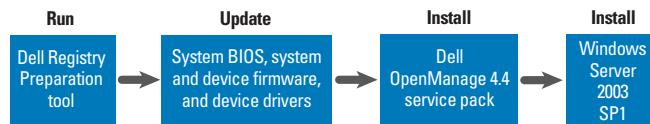

Figure 1. Recommended installation process on servers running Dell OpenManage 4.3
- **Dell OpenManage 4.3:** Administrators should run the regprep tool;⁵ update the system BIOS, system and device firmware, and device drivers; install the Dell OpenManage service pack for version 4.4 (which will be available at support.dell.com); and then install SP1 (see Figure 1).